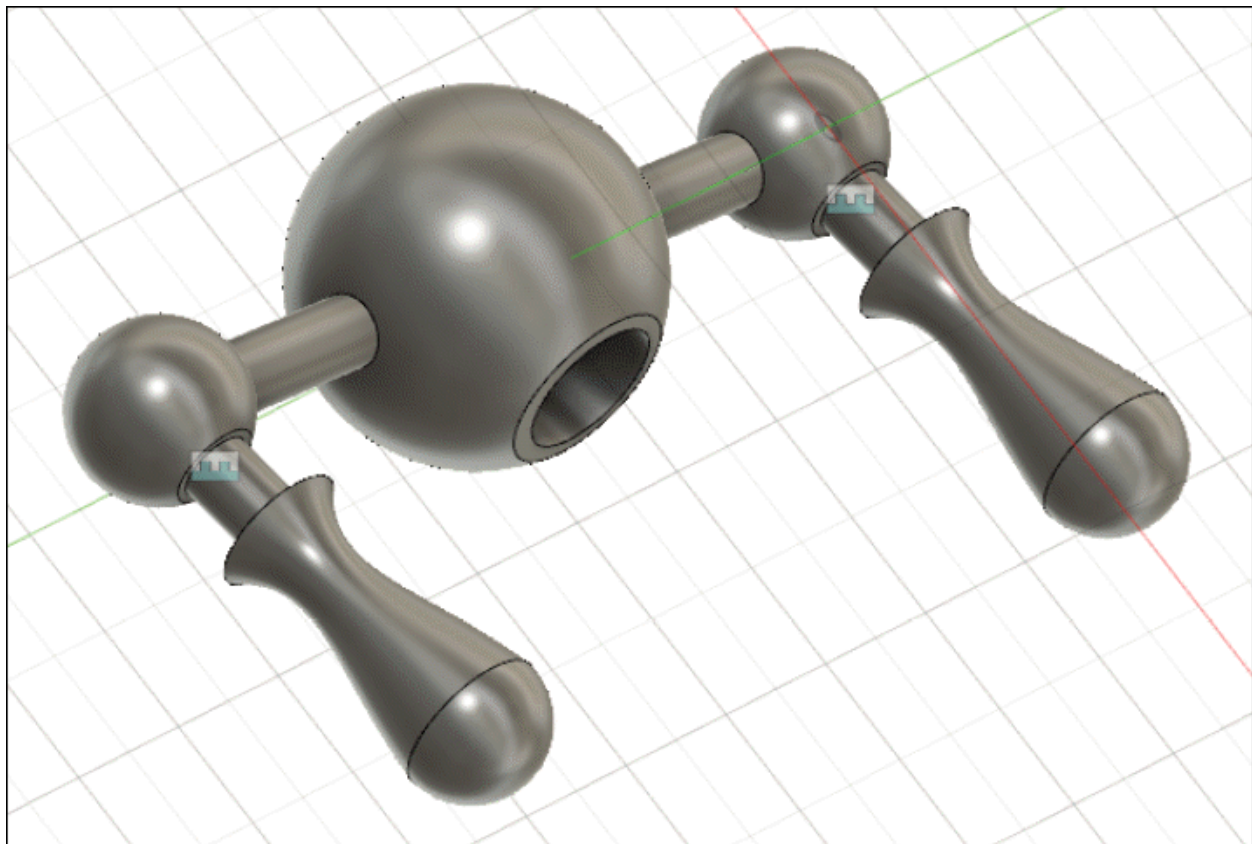

Figure-78. Final assembly of component
- After joining these components, the assembly will be displayed as shown in Figure-78.